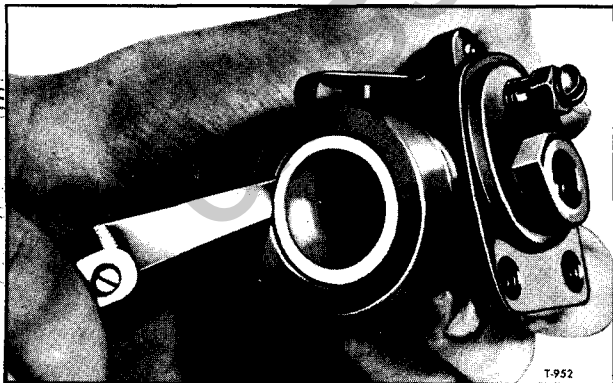

Figure 11—Checking Fit of Piston in Wheel Cylinder
3. Check fit of new pistons in cylinder bore, using a feeler gauge (see fig. 11). Clearance should be within 0.0025" to 0.0065" on "F" type cylinders. Replace cylinder if clearance exceeds maximum.
3. Check fit of new pistons in cylinder bore, using a feeler gauge as shown in figure 11. Clearance should be within 0.001" to 0.005" on "FR-3" type. Replace cylinder if clearance exceeds the maximum.